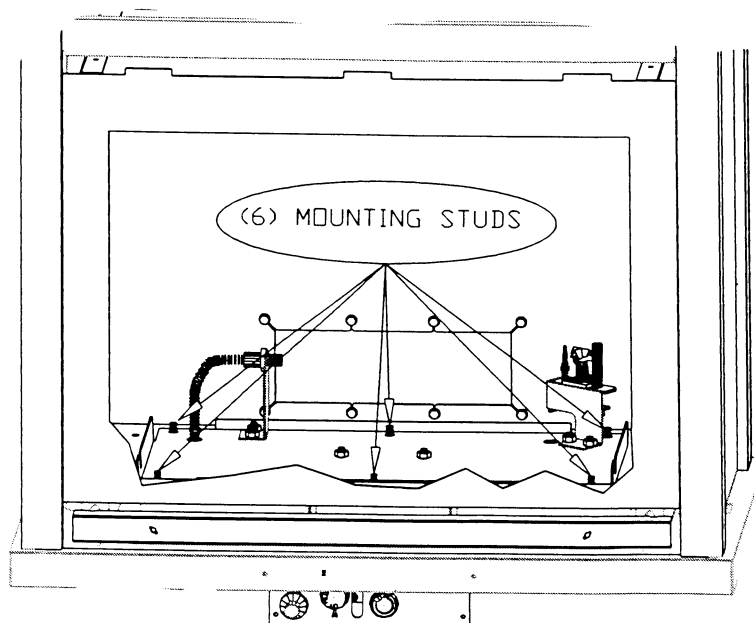

Figure 8
9. Loosen and remove the (6) 1/4" nuts securing the board. Carefully lift the board up off the (6) mounting studs and remove the board from the unit . Figure 8